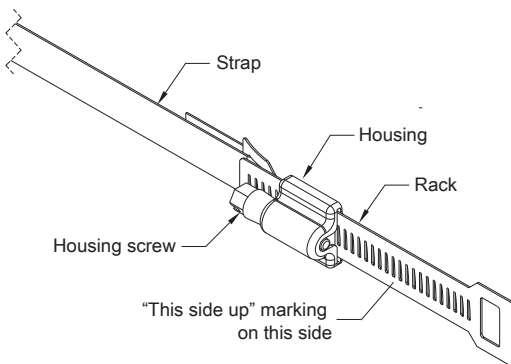

Figure 1
Step 1: Insert one end of the strap into the rectangular slot of the housing then fold at least two inch long or longer (a longer fold creates a more effective lock) then flatten band using thumb to form a hook. The folded end should be on the opposite side of the housing's screw head (Figure 1).